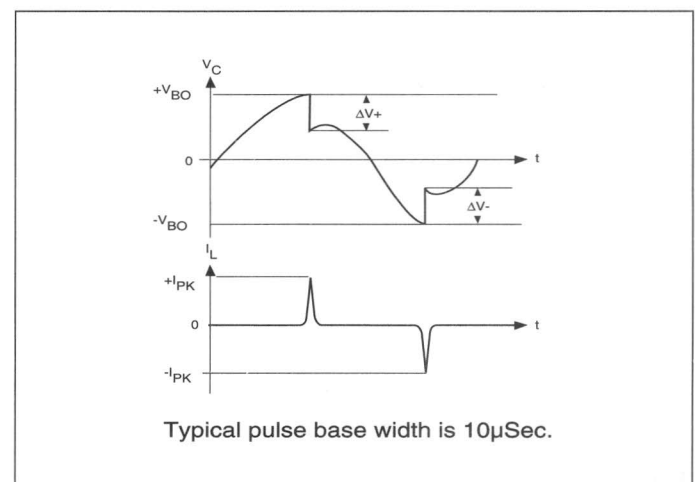
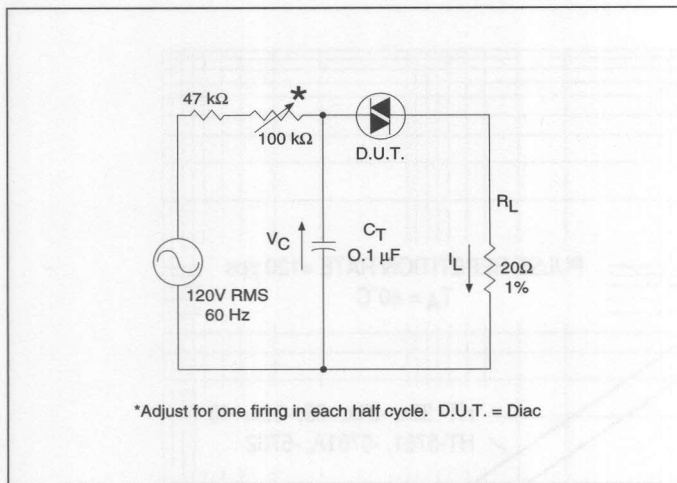

Figure 8.4 Test Circuit Waveforms (See Figure 8.5.)
Figure 8.5 Circuit Used to Measure Diac Characteristics (See Figure 8.4.)
- See Figures 8.4 and 8.5 for Test Circuit and waveforms.
- Typical switching time is 900 nano-seconds measured at I_{PK} (see Figure 8.4) across a 20Ω resistor (see Figure 8.5). Switching time defined as rise time of I_{PK} between the 10% to 90% points.